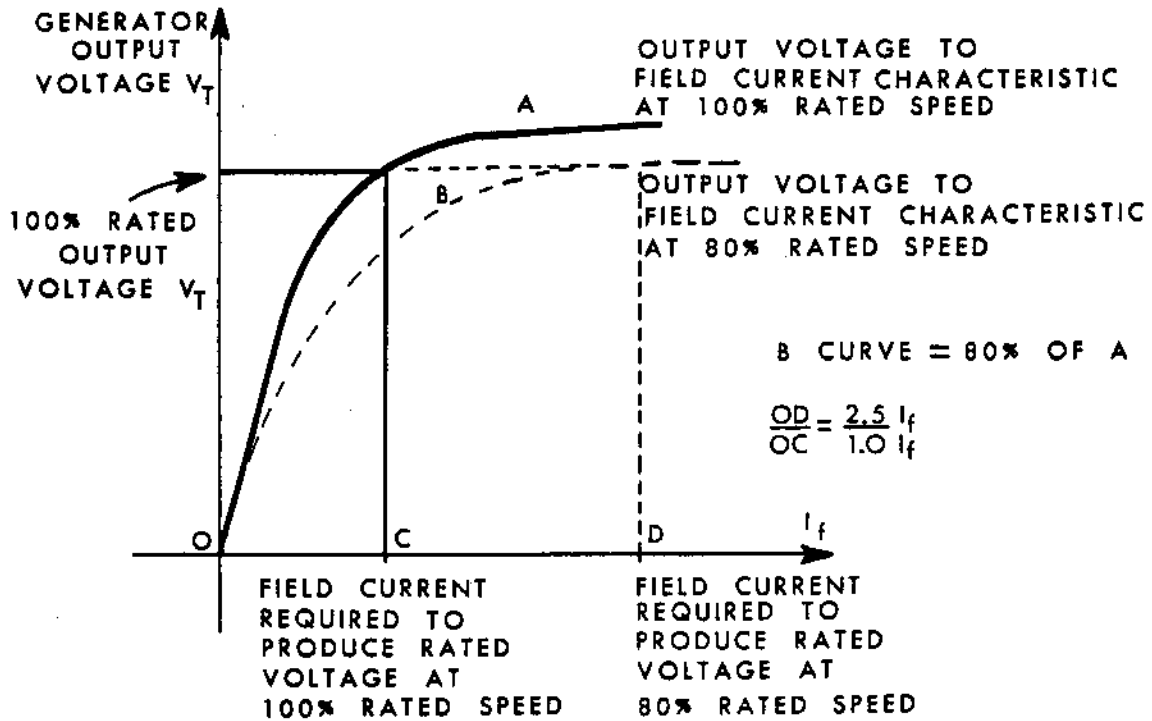

Figure 2: Open circuit output voltage to field current characteristics for a generator at 100% and 80% rated speed.
Figure 2 shows typical output voltage to field current characteristics for a generator operating at 100% rated speed and 80% rated speed. Note that the iron core of the generator is now saturated or **overfluxed** and that the field current has increased by a factor of 2.5. Overfluxing and excess rotor currents cause three problems. The explanations of these problems follow.
- (b) Generator Stator Damage. Figure 2 shows for the generator to produce rated voltage at 80% rated speed, the flux must be increased in the ratio $\frac{100}{80}$, ie, 1.25 times. Consequently, the iron in the stator core is highly fluxed and almost fully saturated, ie, it is overfluxed. Overfluxing gives excessive eddy current and hysteresis heating, and thus the iron can be overheated in the matter of minutes. It should also be appreciated that as the magnetic fluxes increase, the mechanical forces created by the fluxes also increase.